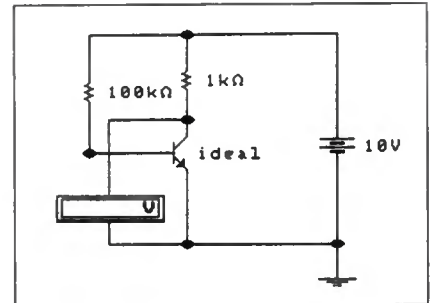

Fig. 4.33 Circuit for Assignment 4.3 with the voltmeter connected to read the value of V_{CE} .
3. Connect the circuit shown in Fig. 4.33. The voltmeter is to be connected so that it will indicate the collector-emitter voltage (V_{CE}) for the transistor.